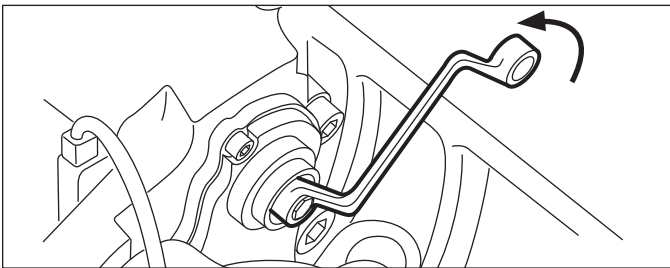

Figure 37 – Backing Off the Adjuster for Pad Removal
5.2.8 Use a 10 mm., six-point box wrench (See Figure 37) to turn the adjuster counterclockwise until sufficient space exists to remove the brake pads. A clicking noise occurs each time the adjuster turns.
- 5.2.19 Using the same tool, turn the Shear Adapter (61) **counterclockwise** and listen for the sound of 3 clicks as the mechanism backs-off (increases) the running clearance. (See Figure 37).